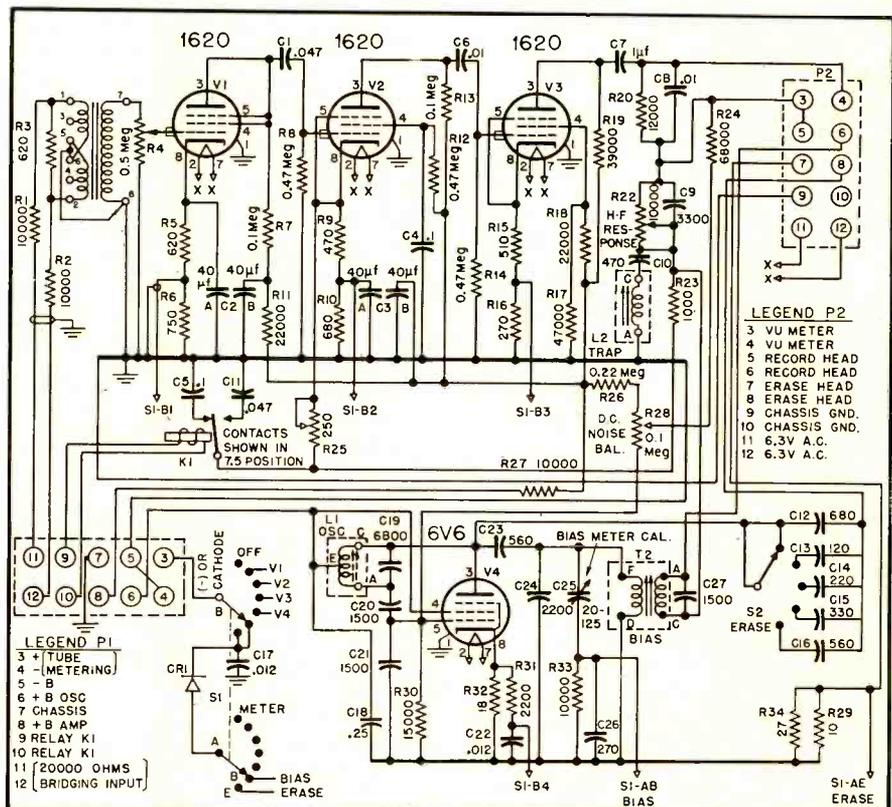

Fig. 5. Overall schematic of recording amplifier.
Figure 5 shows two curves taken in the manner described. Curve 1 is the measured distortion characteristic of a typical Partridge High Fidelity output transformer (type PPO/2) employing a high grade silicon-iron core. Curve 2 is the same characteristic taken for the same transformer but with a Radiometal core substituted for the silicon iron. It will be noticed that really low percentages are obtained by the use of the more expensive nickel-iron core material which also greatly increases the band width obtainable with any given degree of primary-secondary interseccioning. It will be noted, however, that the power handling capacity of the transformer is not increased by the use of the nickel iron core. In both cases the percentage distortion increases rapidly for power levels above 10 watts. This should be expected as both materials saturate at about the same flux density.
Fig. 5. Typical distortion curves taken on two transformers with identical windings and different core materials. (1) silicon-iron core, and (2) Radiometal core.